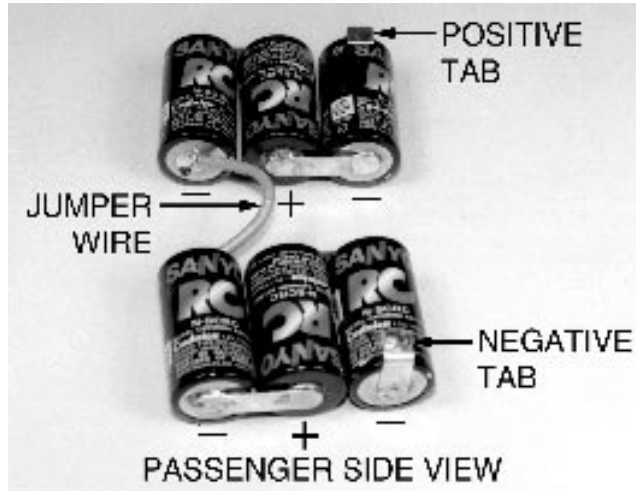
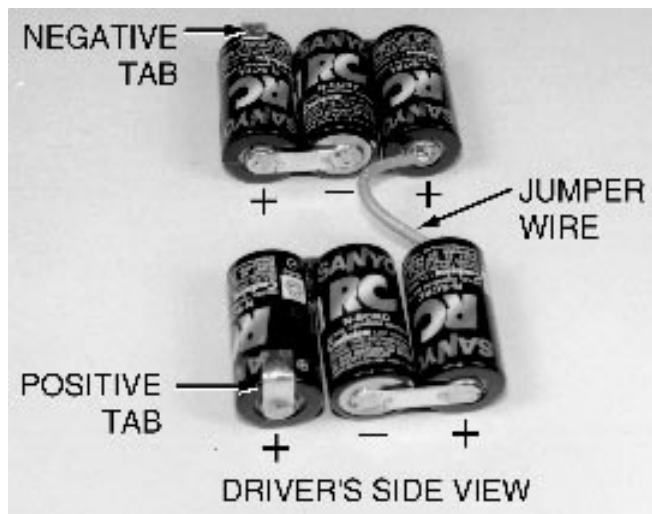

Fig. 84
Fig. 85
**Figs. 84 & 85** Make sure you use ROSIN core solder, the preferred being the more popular 60/40 variety. **DO NOT** use acid core solder. This can damage your electrical components and connections. Fig. 84 shows the right or passengers side of the battery pack. Fig. 85 shows the left or drivers side view of the same battery pack. The cells are soldered in series. This means the positive end of the first cell will be soldered to the negative end of the second cell, and its positive end be soldered to the negative end of the third cell and so on. In between the third and fourth cell the connection will be made by a jumper wire. This wire has to be long enough to reach across the gap between the slots in the chassis and to be able to clear the T-bar. Normally we use 16 or 14 gage wire for this connection.